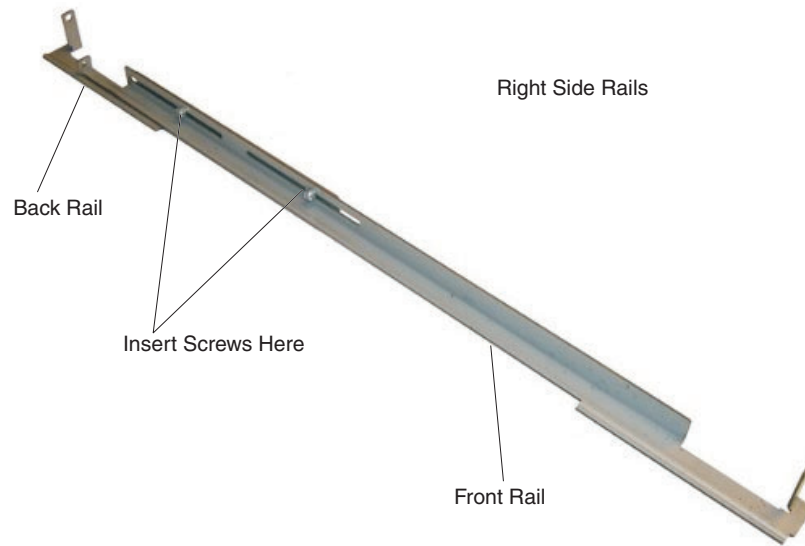

Figure 7. Assembling the right side rail
4. Assemble the rails for the right side in the same way (see Figure 7 on page 10).